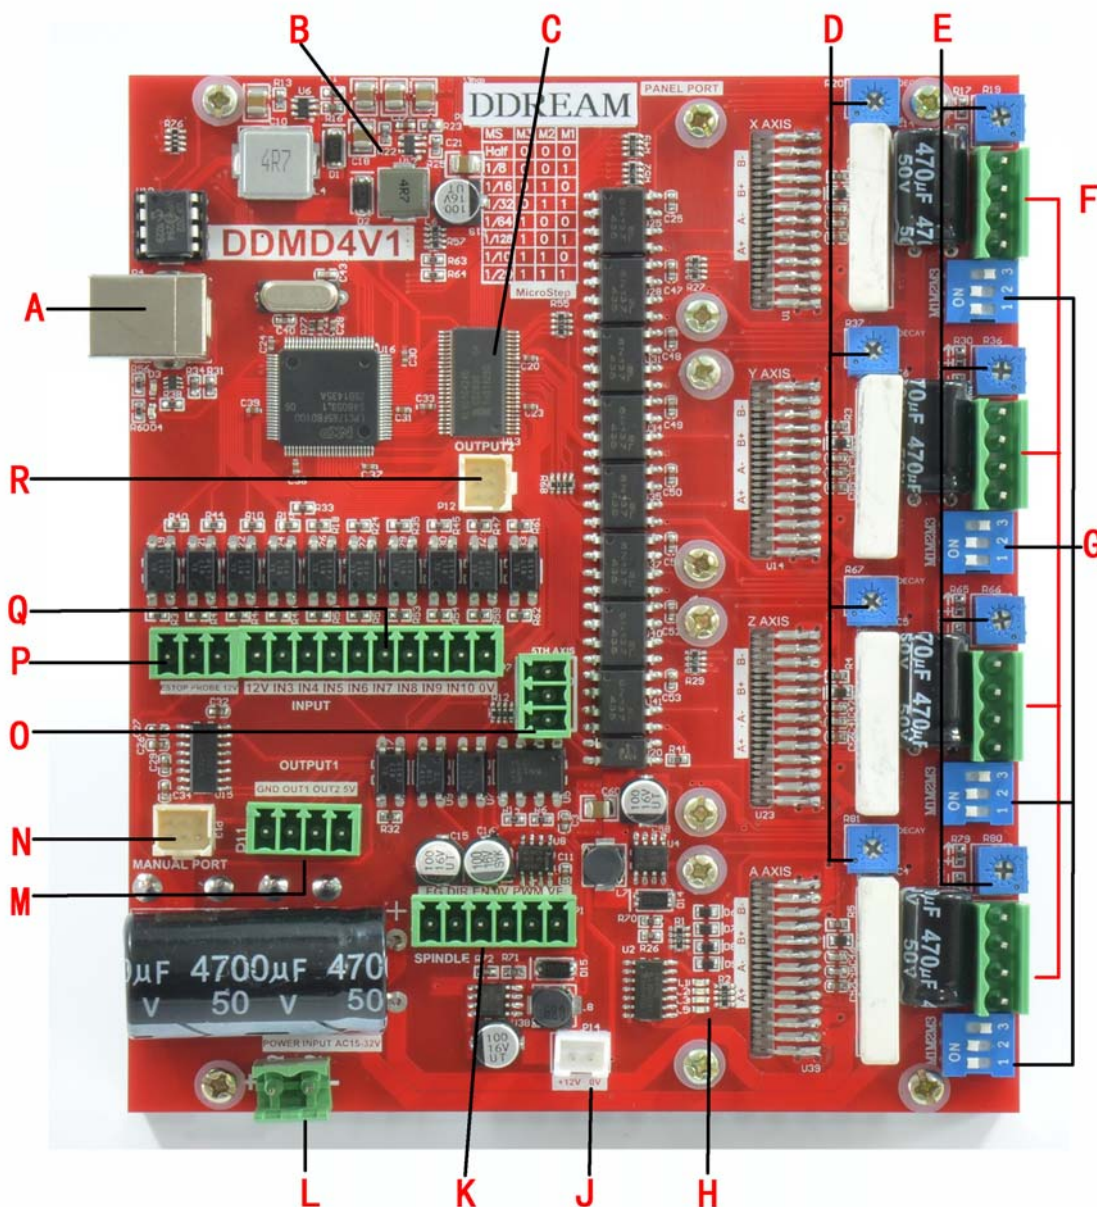

Figure2-1. Block of Function
- H) See as figure2-1, these 4 LED belong to XYZA 4 axis form up to down. When one axis stepper motor run , eg. X axis, the LED will be on when the stepper motor stop, the LED will be off.